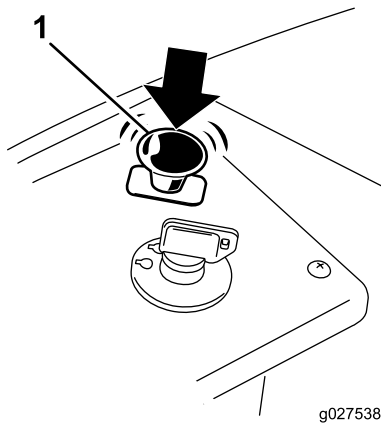

Figure 13
1. Disengage the blades by moving the blade-control switch to the OFF position (Figure 13).